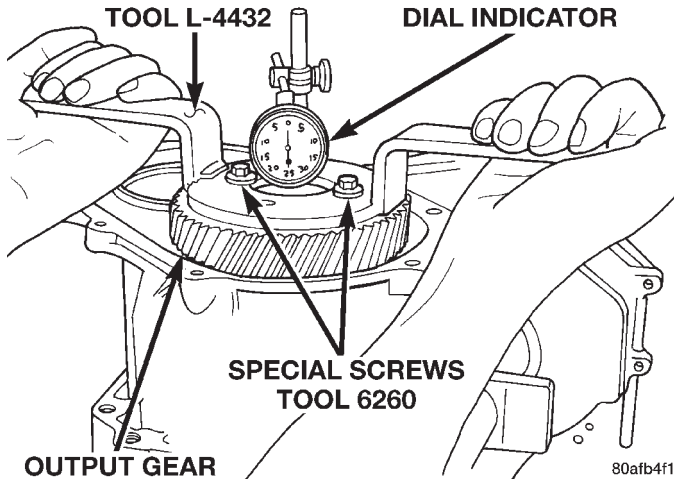

Fig. 240 Checking Output Gear Bearings End Play
- (3) Attach Tool L-4432 to the gear.
- (4) Push and pull the gear while rotating back and forth to insure seating of the bearing rollers.
- (5) Using a dial indicator, mounted to the transaxle case, measure output gear end play (Fig. 240).
- (6) Refer to the output gear bearing shim chart for the required shim to obtain proper bearing setting.